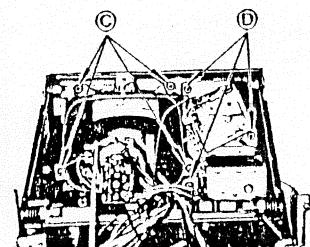

Fig. 9
3. Picture Tube: Remove 4 screws (C) shown in Fig.9.
4. Tuner Block: Remove 3 screws (D) shown in Fig.9.